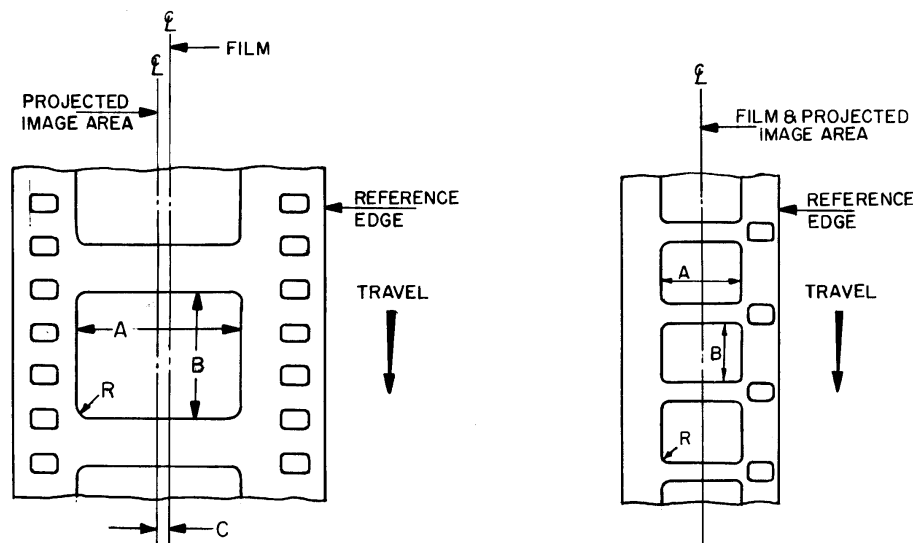

Figure 1 – Dimensions
2.1 The dimensions shall be as specified in figure 1 and table 1.